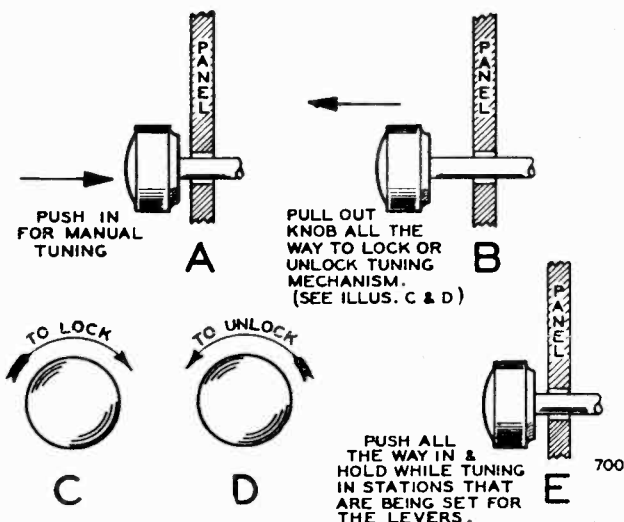

FIG. 3
1. Pull the dial tuning knob all the way out (See Illus. "B," Fig 3), and rotate the tuning knob to the left (counterclockwise) until it cannot be turned any further (See Illus. "D," Fig. 3). This will unlock the automatic tuner mechanism. (NOTE:—Automatic tuner mechanism is locked tight when radio is shipped from the factory.)
tune the station, the dial tuning knob will have to be pressed in (See Illus. "E," Fig. 3). Turn the dial tuning knob very slowly back and forth (while still holding the automatic tuner lever in downward position), noting the width of the shadow on the screen of the cathode-ray tuning indicator. Minimum width on the tuning indicator indicates the ideal tuning position (resonance). The station will then be clearest and accurately tuned in.
5. Pull the dial tuning knob all the way out (See Illus. "B," Fig. 3) and rotate the tuning knob to the right (clockwise) until it cannot be turned any further (See Illus. "C," Fig. 3). This will lock the automatic tuner mechanism and the stations you have set up for automatic tuning will be locked in place. After you have locked the tuner mechanism, push the dial tuning knob in.